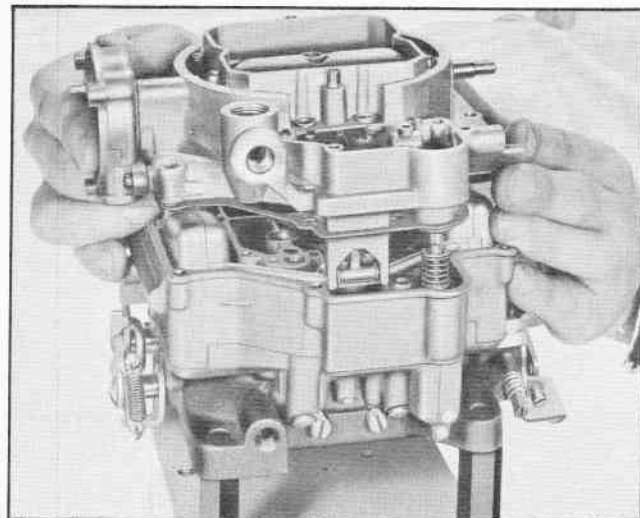

Fig. 12 Removing Air Horn Assembly
15. Carefully remove air horn assembly with gasket and attached parts by lifting straight up from carburetor body assembly (Fig. 12).